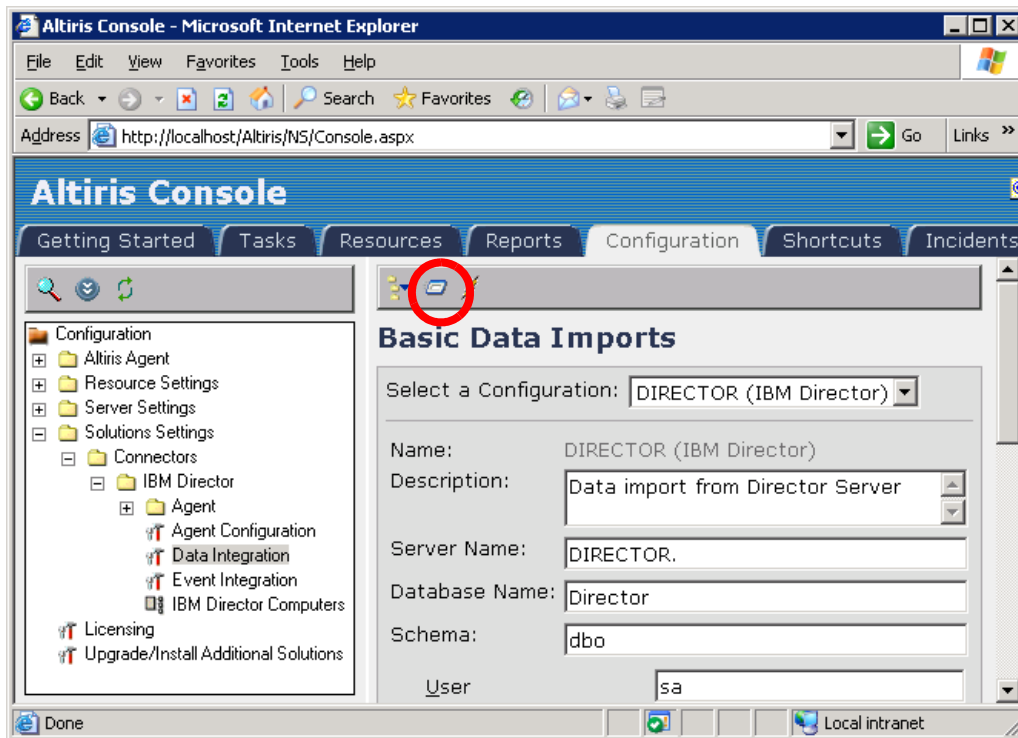

Figure 8-29 The Basic Data Imports page with the Run the Selected Configuration icon highlighted
- ▶ Click the **Run the Selected Configuration** icon (see Figure 8-29 on page 286) on the tool bar to import immediately; or